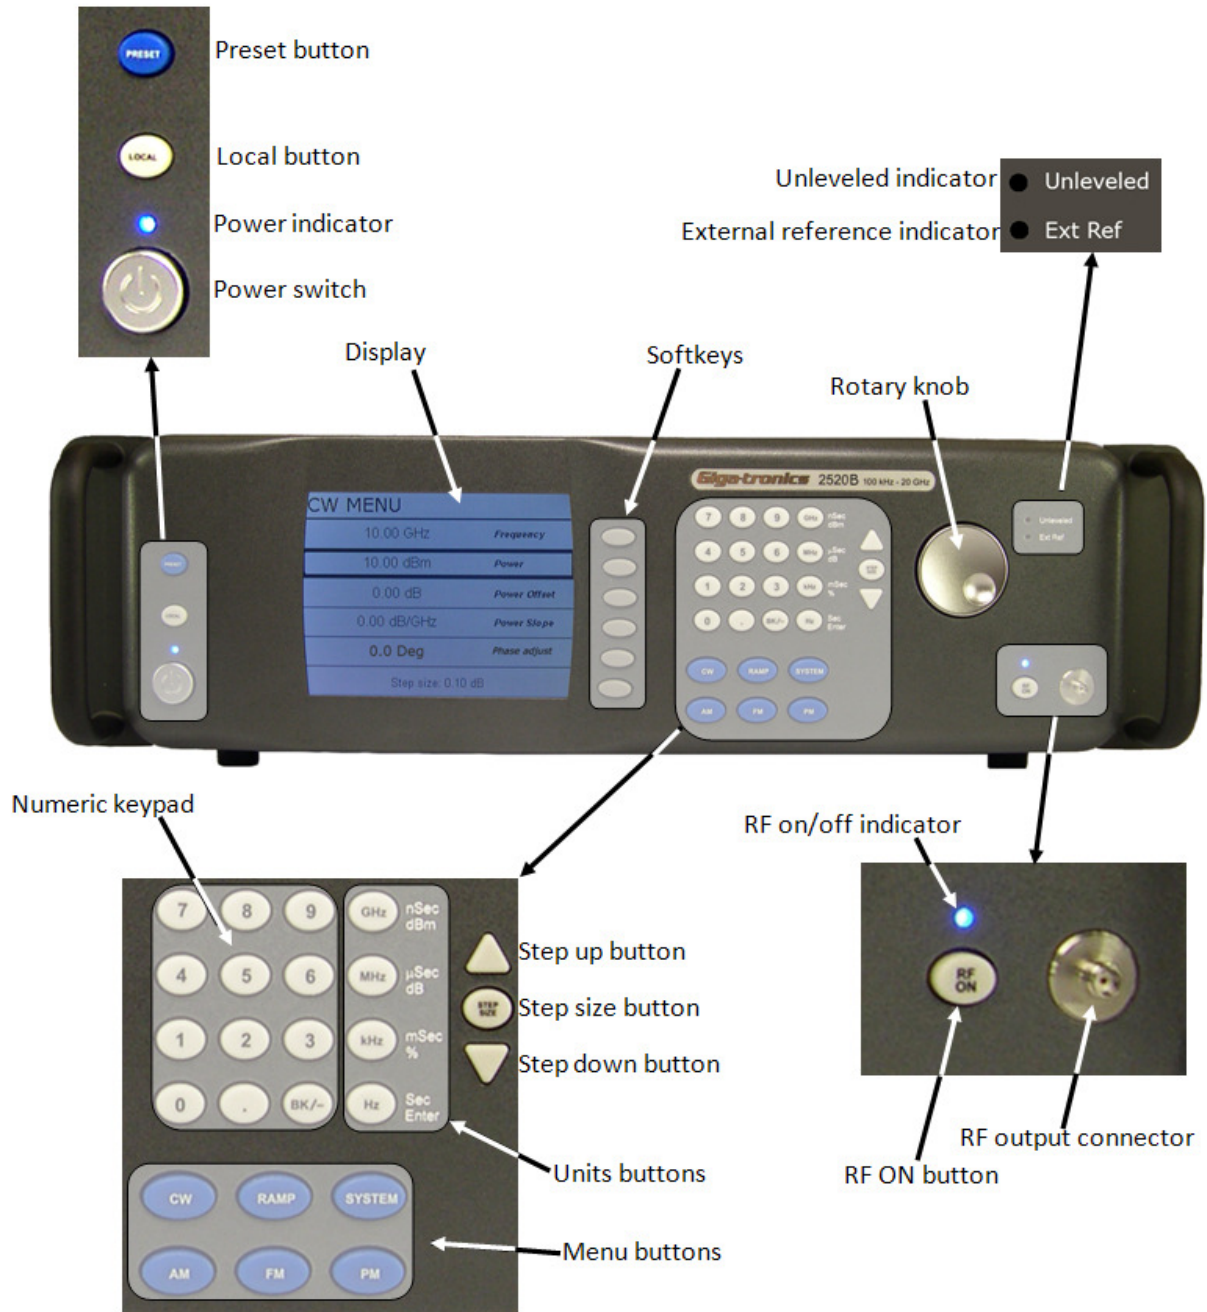
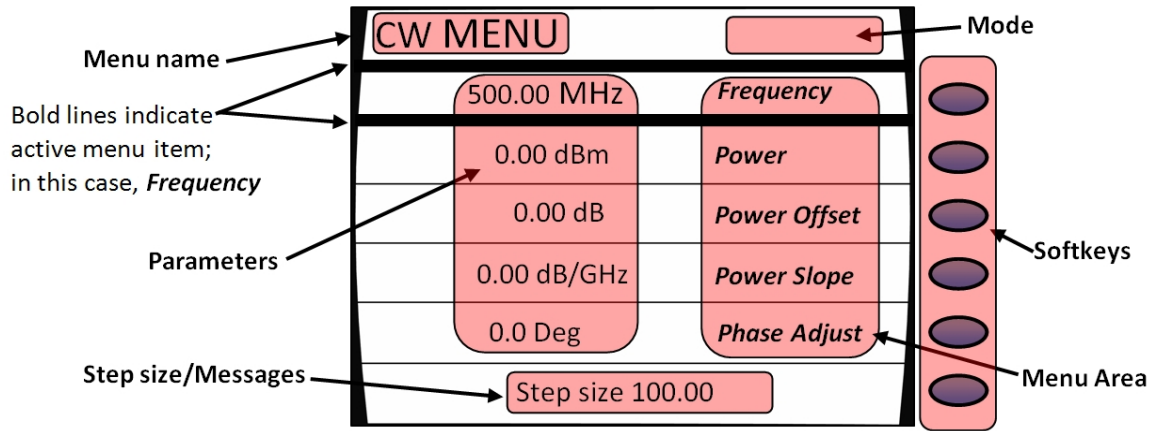
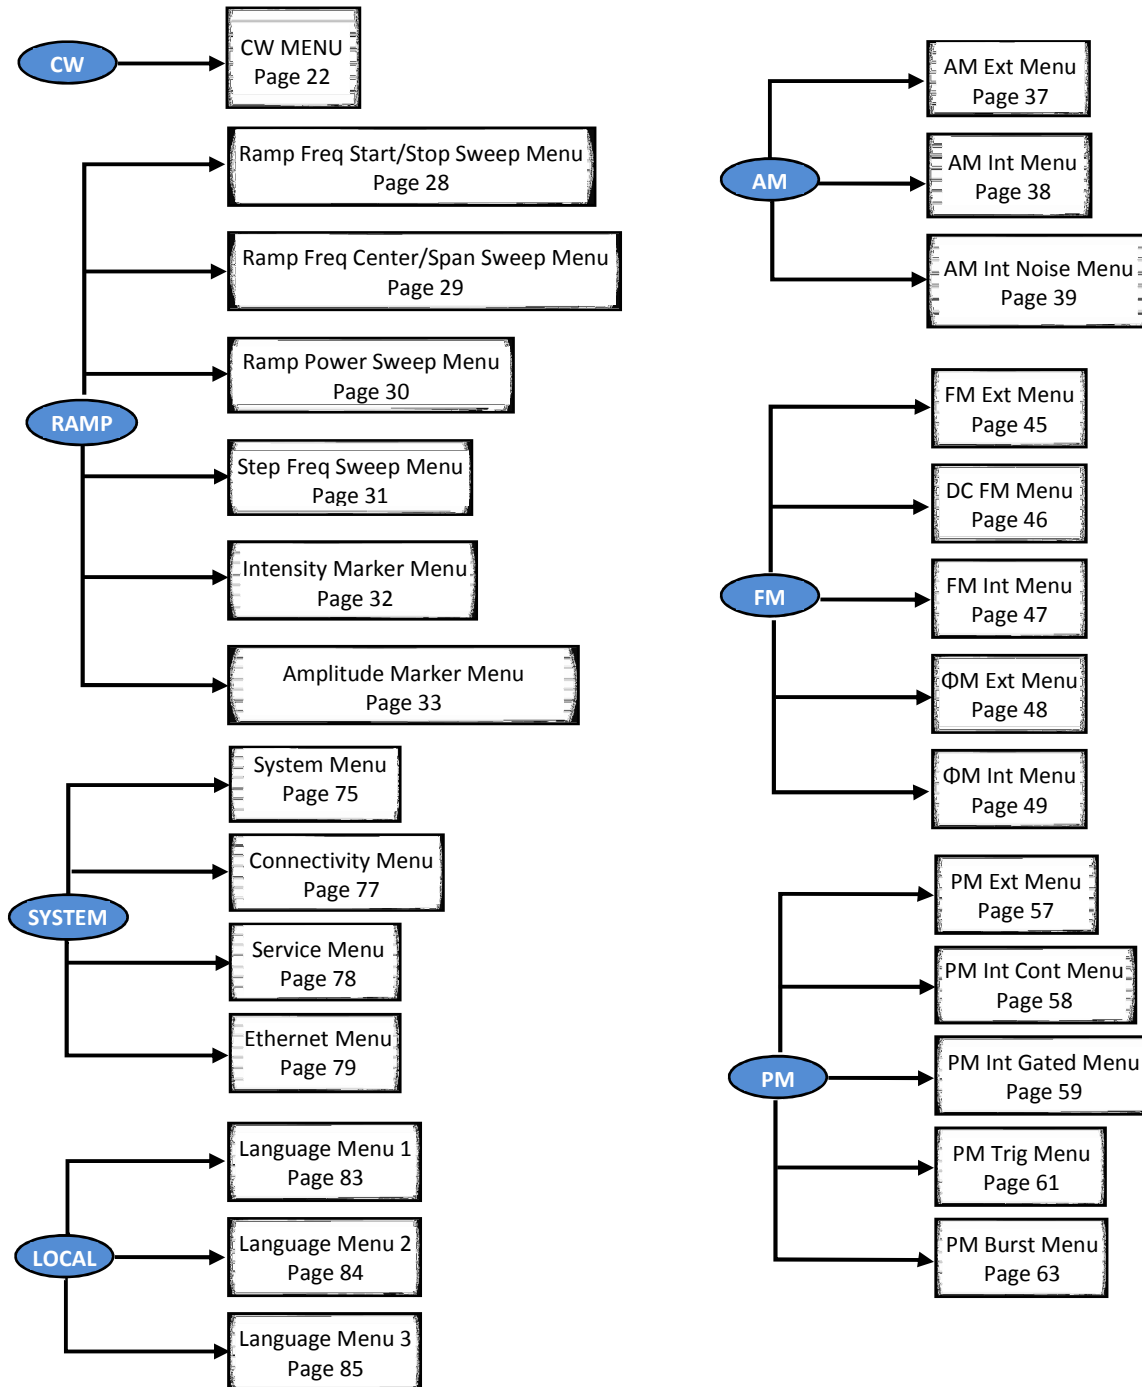

Figure 3: 2520B Front Panel
Figure 4: Functional Areas of the 2500B Display
Figure 5: Structure of the 2500B Menus
Figure 3, below, describes the main features of the front panel of the 2500B. Refer to the tables on the following pages for detailed descriptions of the parts of the front panel.
**NOTE:** A 2520B is shown in Figure 3. The 2520B front panel is representative of the entire 2500B series.
Figure 5 below shows the structure of the menus of the 2500B. To access the menus, you must first press one of the blue Menu buttons (see Figure 3 on page 11).
- In local operation, the 2500B menus are accessed via the Menu buttons or Local button on the front panel (see Figure 3 on page 11). Pressing a Menu button causes the menu for that button to appear on the display. The Menu buttons are:
- The LOCAL button allows you to access and modify communication functions during remote operation of the 2500B (see Figure 3 on page 11).
Use the softkeys (see Figure 4 on page 14) to select a submenu or parameter shown to the left of the softkey, in the display.
Parameters in the Menu Area of the display (see Figure 4 on page 14) can be modified using either the rotary knob, Step Up/Down keys, or the numeric keypad (see Figure 3 on page 11), except where otherwise noted. Table 10 below describes how to modify a menu parameter.
2.	Press the Step Size button (see Figure 3 on page 11).
4.	Press the appropriate Units button (see Figure 3 on page 11).